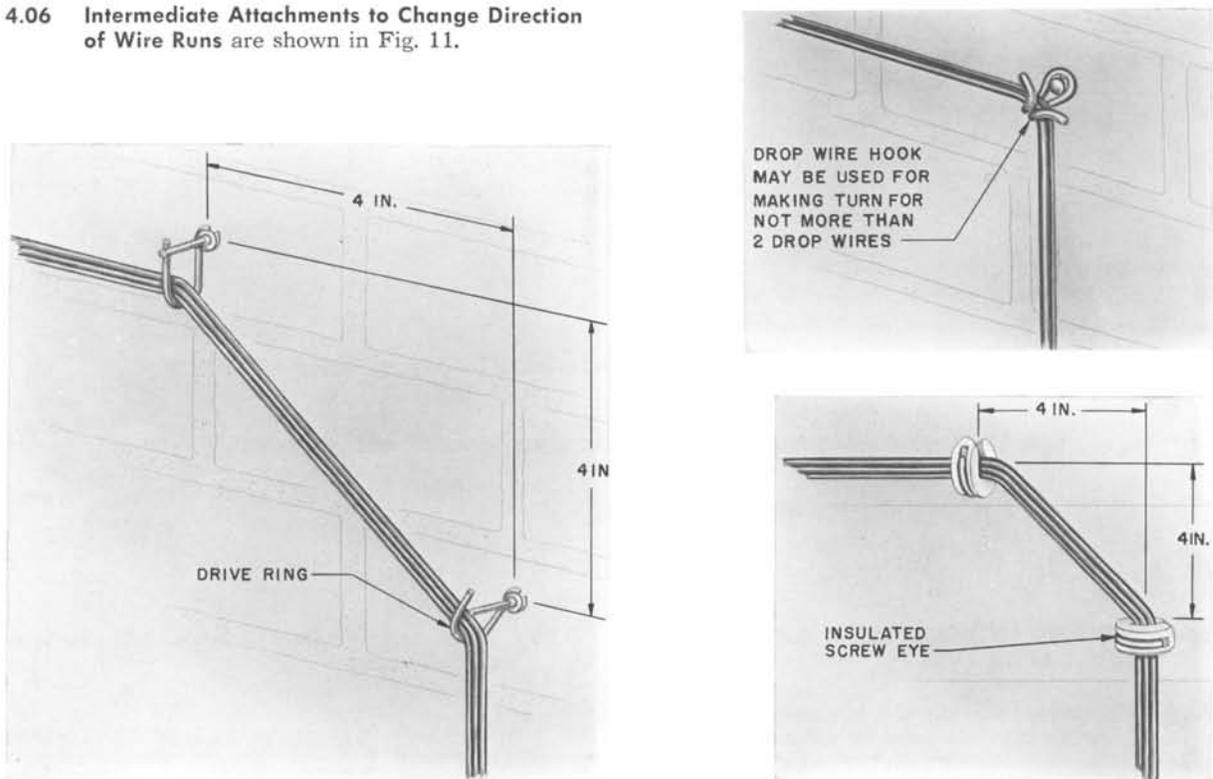

FIG. 11—INTERMEDIATE BUILDING ATTACHMENTS TO CHANGE DIRECTION OF WIRE RUN
4.06 Intermediate Attachments to Change Direction of Wire Runs are shown in Fig. 11.